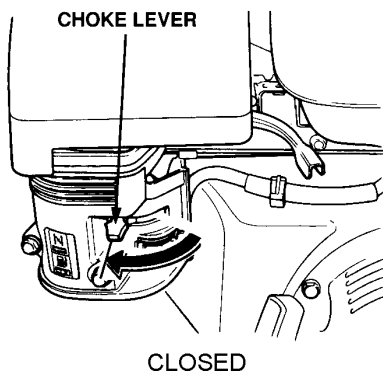

Figure 12. Choke Lever (Closed)
7. If the engine has started, slowly return the choke lever (See Figure 12) to the CLOSED position. If the engine has not started repeat steps 1 through 6.